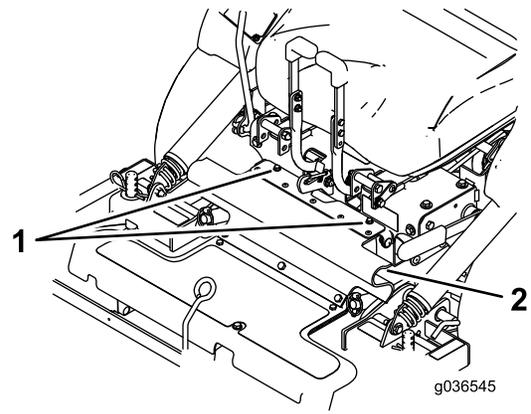

Figure 12
3. Loosen the bolts attached to the rubber guard (Figure 12).